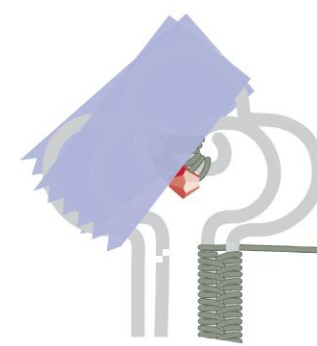

figure 15
- 27 Work Weave Pattern 1 (page 16) to weave the key and filigree frame wires together up to about 1/8" (3 mm) before the first curve of the frames (Figure 15).